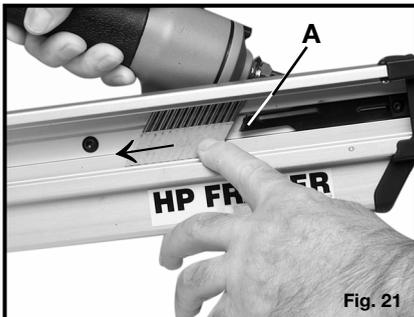

Fig. 21
4. Feed the strip of fasteners into the magazine ("T" slot), until they are past the spring (A) Fig. 21.